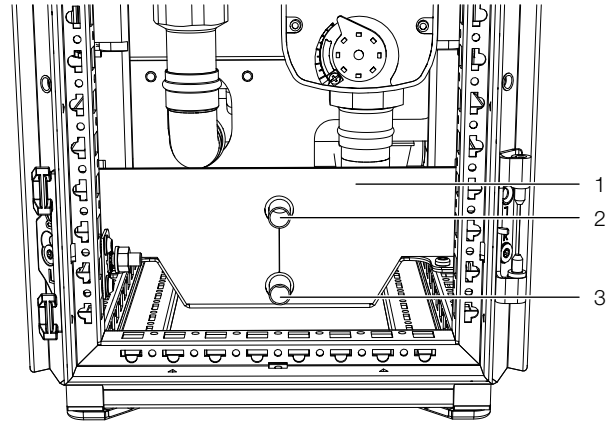

Fig. 94: Condensate discharge
Any condensate which may develop is collected in the condensate tray (fig. 94, item 1) in the water module of the Liquid Cooling Package.
The Liquid Cooling Package is additionally equipped with a condensate discharge (fig. 94, item 3 or item 2) via which the condensate is pressurelessly routed out of the Liquid Cooling Package.